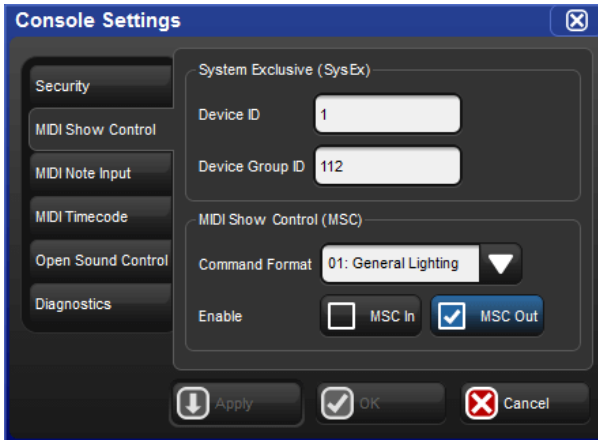

Figure 21.1. The Midi Show Control pane of the Console Settings window
5. Settings : open the Settings window; see *Figure 21.1, "The Midi Show Control pane of the Console Settings window"*.